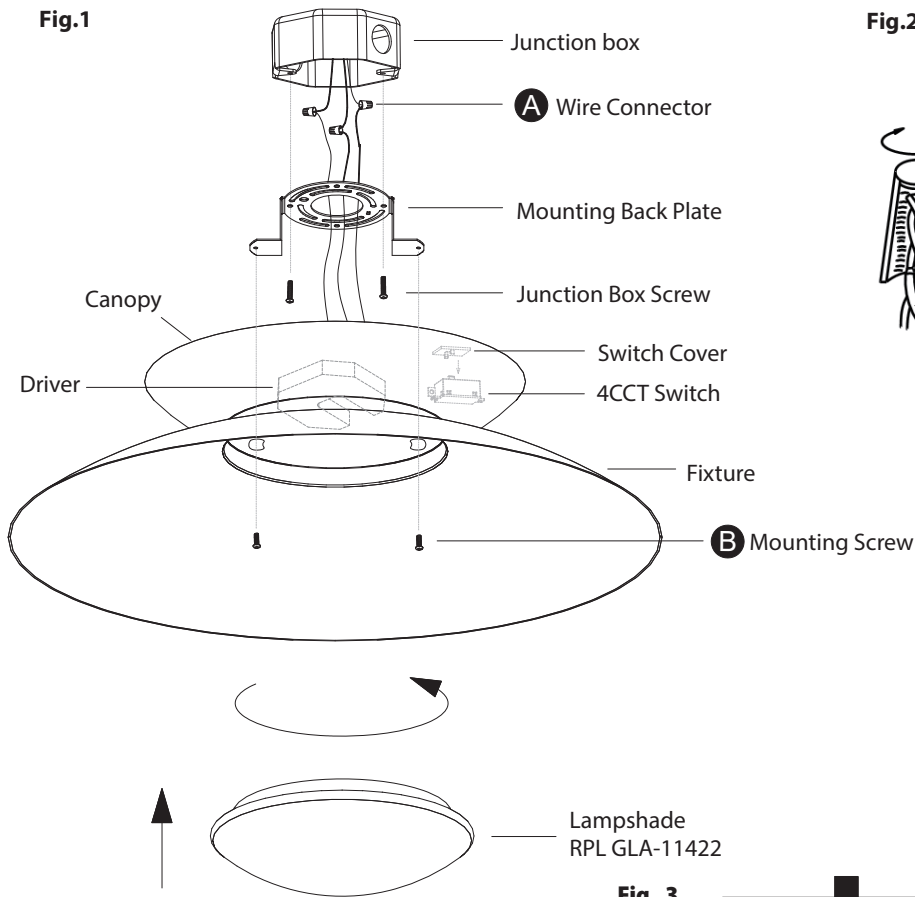

Fig.2 Wiring
CONNECTING THE WIRES (Fig. 2)
6. Connect the driver's input wires to junction box wires as shown (Fig. 2). Make sure that all wire connectors (A) are secure. If your outlet box has a green or bare copper ground wire, connect the fixture's ground wire to it. Otherwise, connect the fixture's ground wire directly to the back plate using the green screw provided. After wires are connected, tuck them carefully inside the junction box.